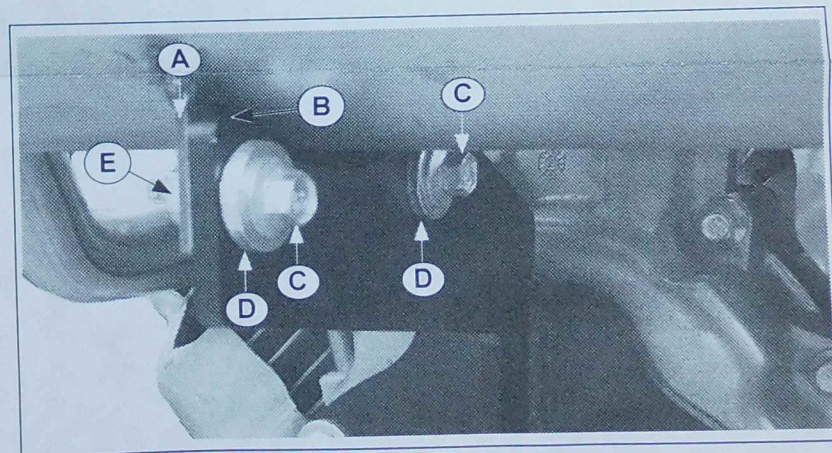

Figure 3. Secure Muffler to Muffler Bracket.
5. Secure the muffler (A) to the muffler bracket (B) using the two M8x25 screws (C), two flat washers (D), and the two M8x1.25 hex flange nuts (E). See Figure 3. Torque the nuts to 24.4 N·m (216 in. lb.).